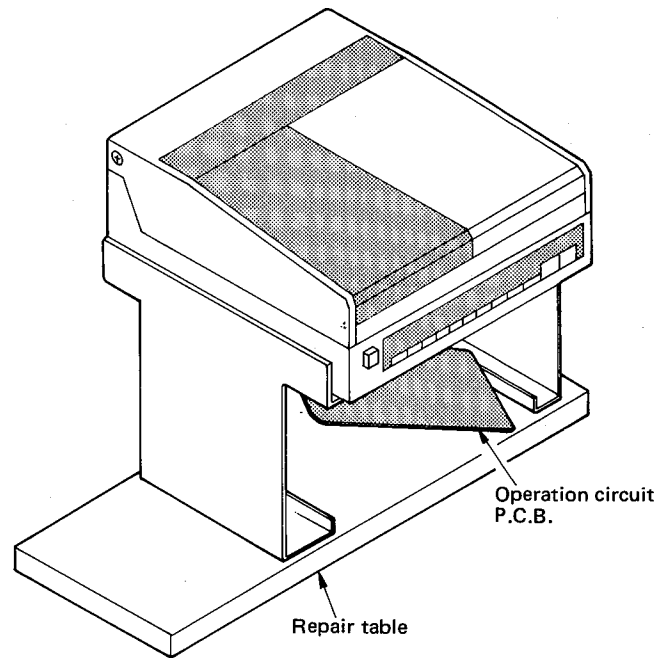

Fig. 23
1. How to use the repair table (Fig. 23)
- ① Remove the bottom board.
- ② Remove the operation circuit P.C.B. and connect the P.C.B. earth terminal to the chassis (Stator frame).
- ③ Put the set on the repair table.
- ④ Fit the turntable platter and put on the turntable mat.
- ⑤ Put on the record and check the circuits from under the set.